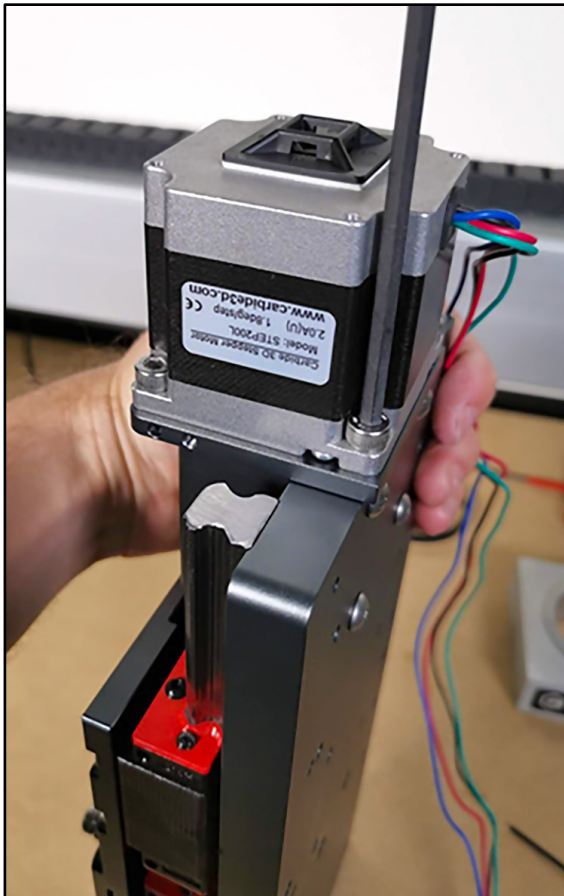

Figure 6
4. Once the motor is fitted, tighten the coupling at the motor side. See **Figure 6**.